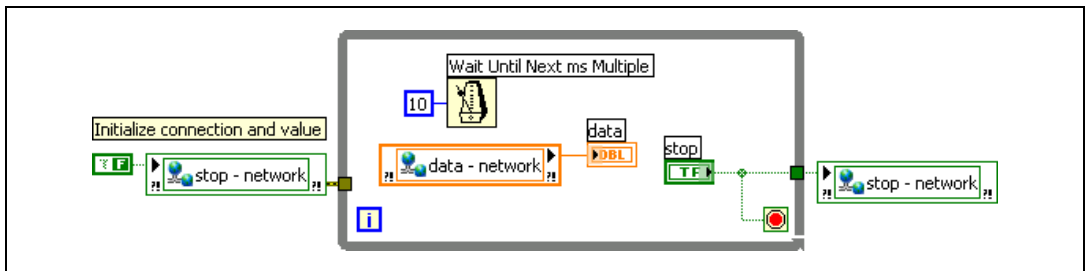

Figure 8. Host VI for User Interface
4. Double-click the `host - network - RT (separate).vi` under **My Computer** and press the <Ctrl-E> keys to open the block diagram. As shown in Figure 8, the host VI contains a While Loop that reads from the shared variable, `data - network`, and publishes the data to a waveform chart on the front panel. The host VI also contains a Shared Variable node that writes to the shared variable, `stop`, allowing you to control the RT target VI from the host computer.